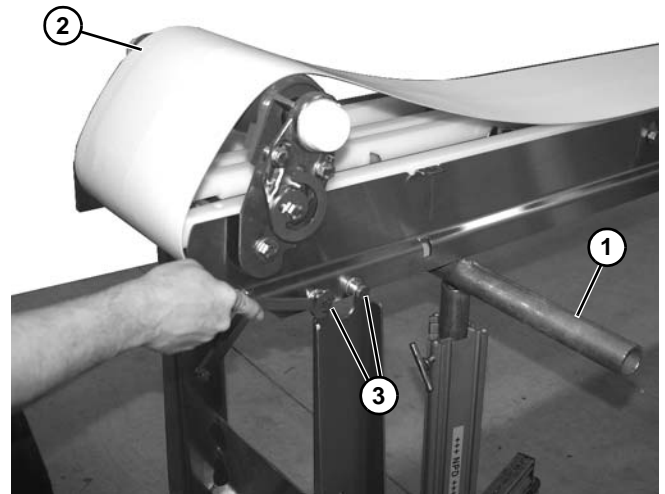

Figure 78
4. Place temporary support stands (Figure 78, item 1) at both ends of the conveyor. Place an additional support stand under the drive motor, if equipped. See WARNING.
5. Rotate idler end (Figure 78, item 2) upward as shown.
6. Remove two screws (Figure 78, item 3) securing the stand brackets from one side of the conveyor.